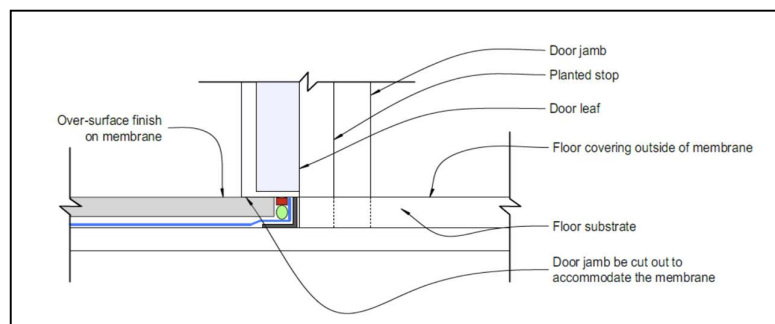

Figure 20:Face of door jamb with water-stop under door
- ✓ Figure 20: Face of door jamb with water-stop under door